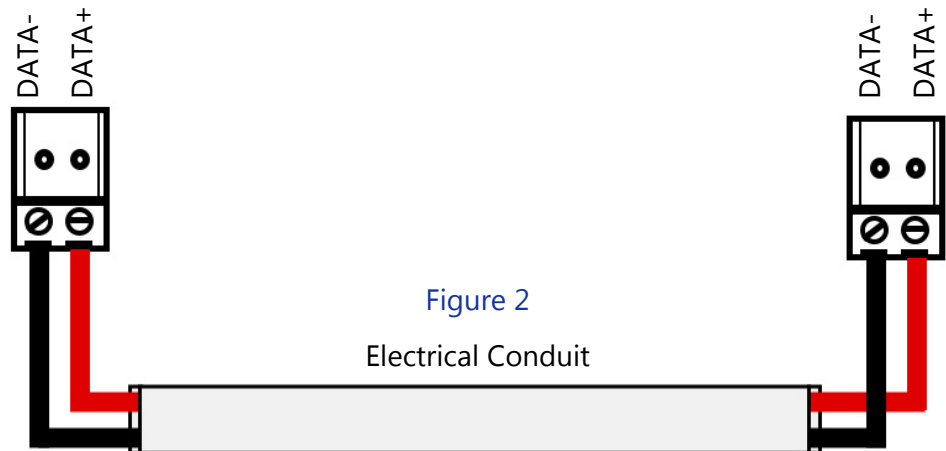

Figure 2
4. Locate the DATA- and DATA+ green terminal on the bottom left of the circuit board. (Figure 2). Use a flathead screwdriver to release the 2 locks on the top of the green terminal.